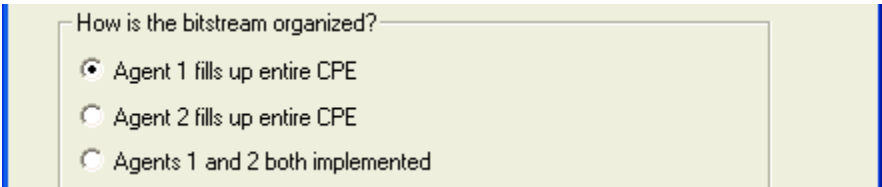

Figure 6: Bitstream Load Selection
6. Make your selection, as Figure 6 shows. Information about each setting is listed in Table 6.